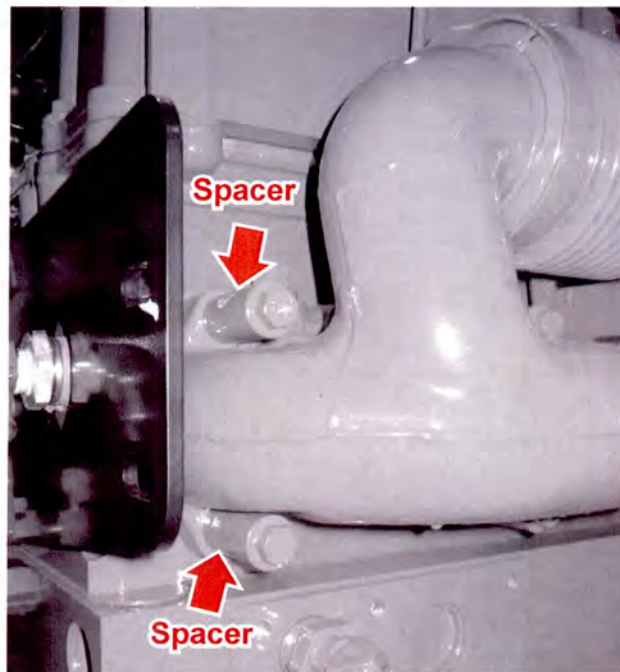

Figure 6
8. Install two spacers S2350006-001 onto the exhaust manifold bolts that were removed and set aside in step 3. Install the bolt and spacer assembly into the exhaust manifold and tighten to 45 ft-lb (60 N·m) of torque (see Figure 6).